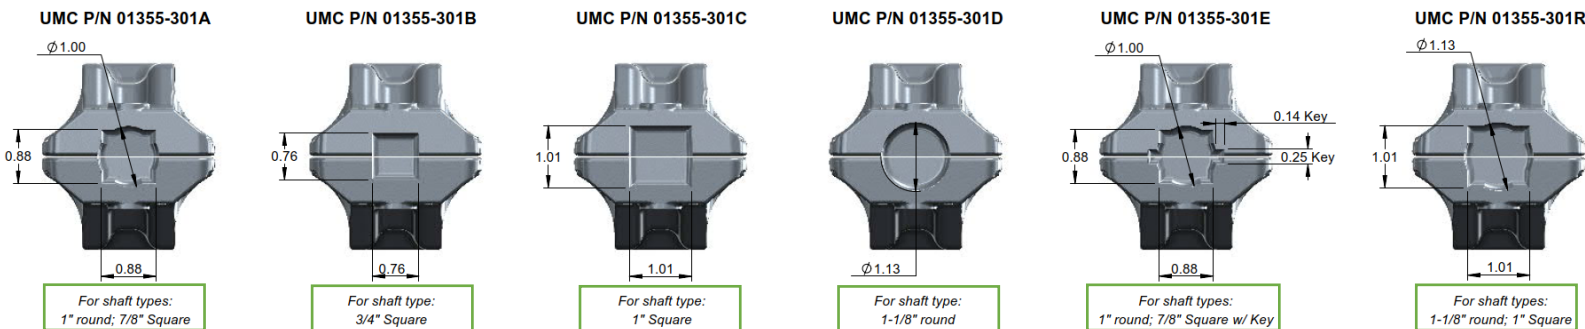

Figure 2: UMC Coupler part numbers and corresponding shaft type and size.
- Before you start, take a moment to identify the coupler that you have with the types listed below in Figure 2. Each type of coupler fits specific shape(s) and size of shaft(s). **FAILURE TO USE THE CORRECT COUPLER CAN RESULT IN DAMAGE UPON INSTALLATION OR FAILURE DURING OPERATION.**